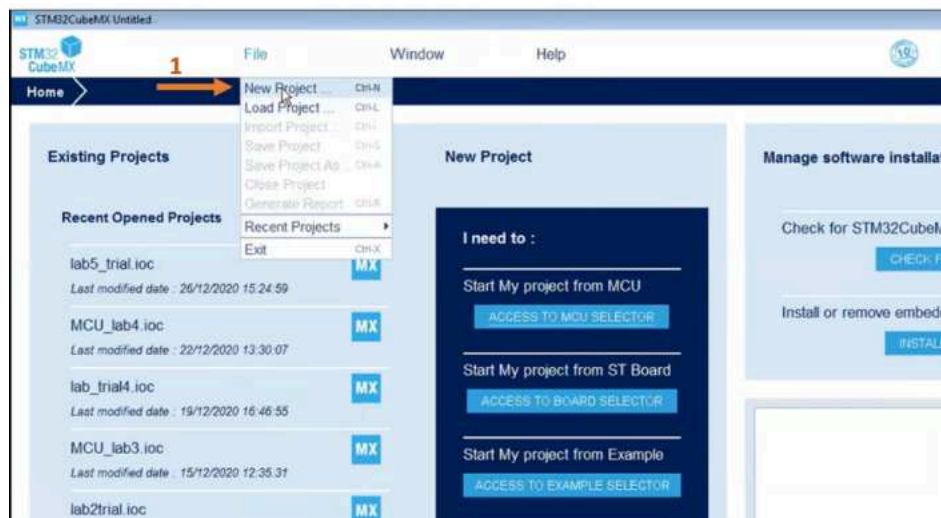
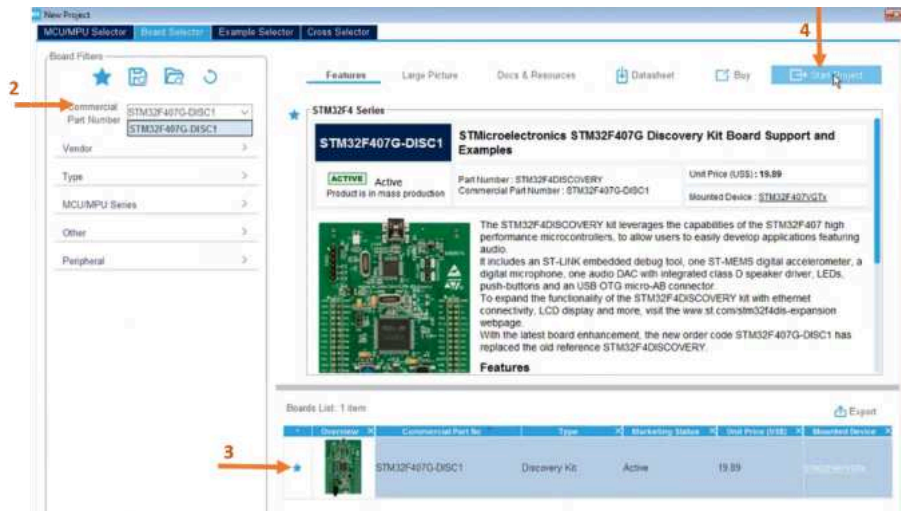
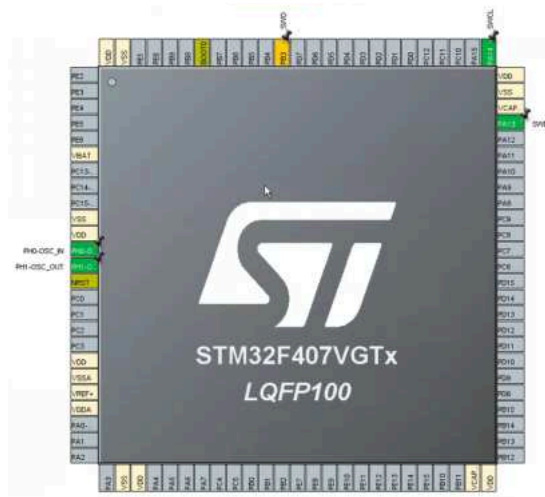

Figure 1
Figure 2
Figure 3
1. Create a new project in CubeMx (Figure 1). Select STMF407VGTx, then STMF407G-DISC1 and finally Start Project (Figure 2). First adjust the Pinout&Configuration settings. Close the unnecessary pins (Figure 3).